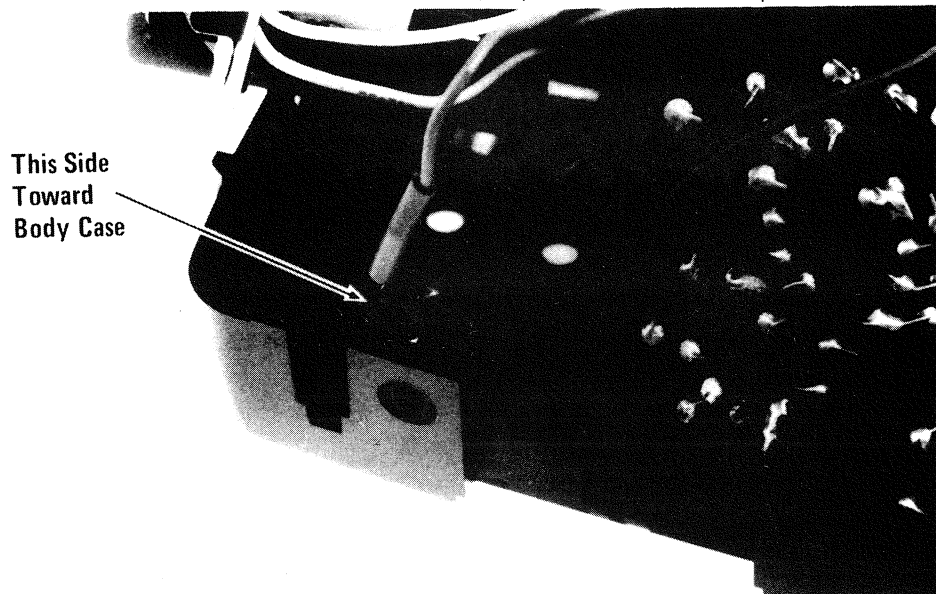

Figure 3-19. Positioning PC-1 Receptacle
- C. Make sure that PC-1 receptacle is properly inserted into its compartment as shown. Fig. 3-19.